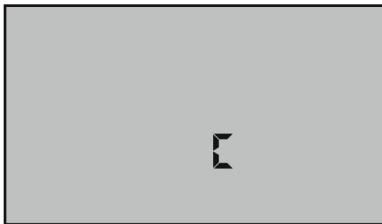

Figure 18
3. Press  repeatedly until you pass the “US” or “Int” date format location. The display will show a “C” or “F” (see Figures 18 and 19).